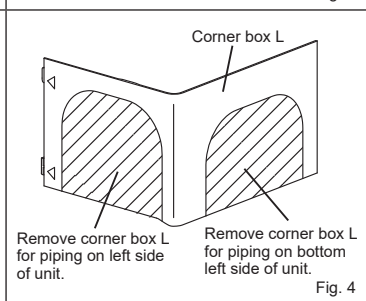
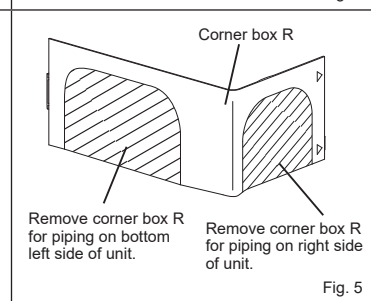

Fig. 4
Fig. 5
- 10) According to the piping direction, remove the shaded part of the corner box L (Fig. 4) or corner box R (Fig. 5). Reinstall electrical cover, corner box R and panel assembly.
- 4) Flaring work (Fig. 4, 5). Firmly hold copper pipe in the dimension shown in the table. Select A in. (mm) from the table according to the tool you use.